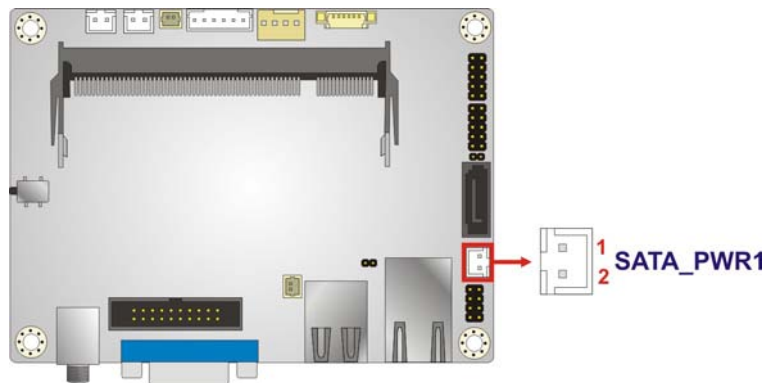

Figure 4-18: SATA Power Connector Location
- CN Location: See **Figure 4-18**